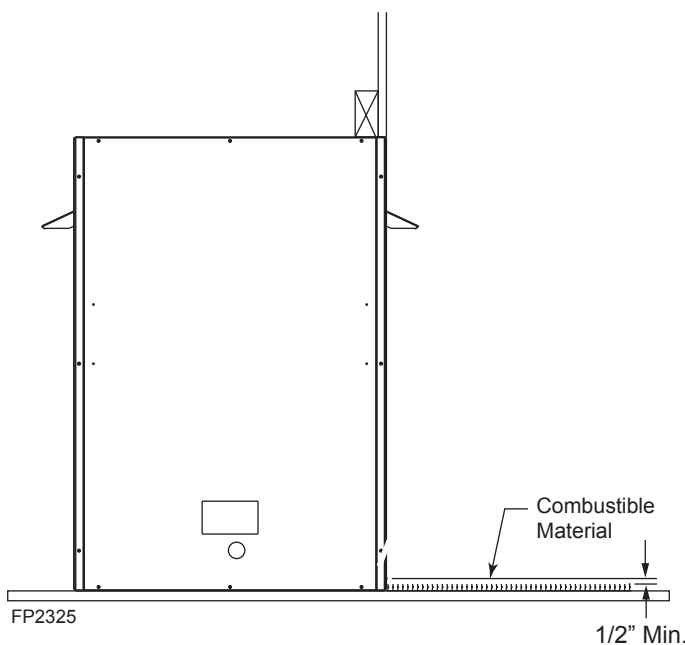

Figure 7 - Floor Clearance above Combustible Flooring Material
6. **Floor clearance** — This firebox hearth opening (inter-chamber floor) must be installed at least 1/2" above any combustible flooring material *Figure 7* or, the firebox hearth may be installed flush with the floor if noncombustible material such as slate or marble is installed between the base of the firebox and the combustible flooring. The firebox may be installed directly on a combustible floor or raised on a platform of an appropriate height. Do not place firebox on carpeting, vinyl, or other soft floor coverings. It may, however, be placed on a flat wood, plywood, particle board, or other hard surfaces. Be sure firebox rests on a solid continuous floor or platform with appropriate framing for support so that no cold air can enter room from under the firebox. *Figure 8*.